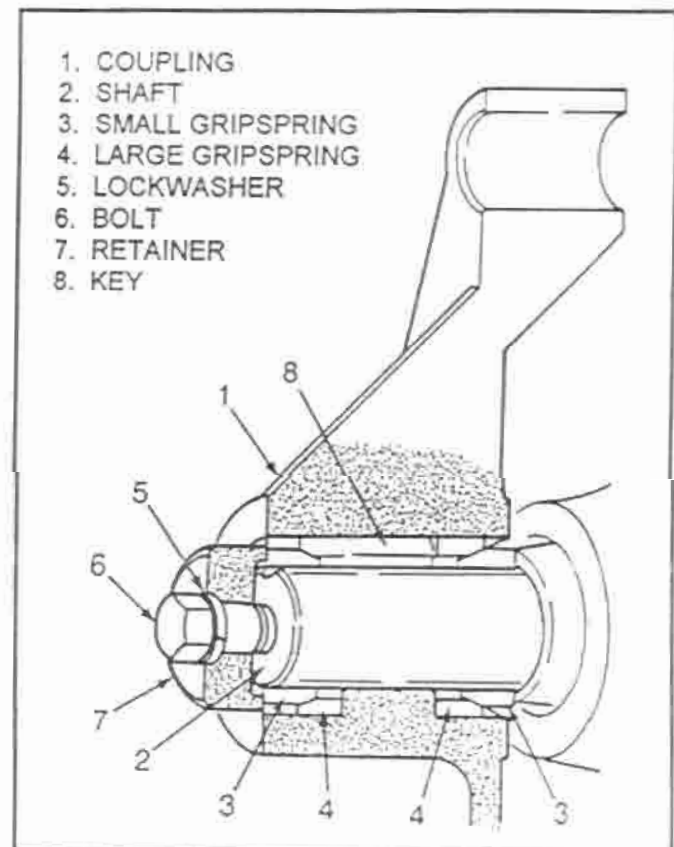

Figure 6-2. Grip spring installation
e. Press inner race of bearing (82) onto non-drive end of shaft (32).
f. Place ball (98) into stator as shown; coat o-ring packing (100) with clean compressor oil and place on end of stator (15).
g. Assemble gasket (99) and adapter (7) on register of drive end cover (88) making certain holes are aligned. Carefully assemble this group of parts into drive end of stator with sealing washers (96) and bolts (95).
h. Coat o-ring packing (90, 93) with clean compressor oil. Assemble packing (90) and sleeve (92) on shaft.
i. Assemble oil seal (89) into oil seal cover (86) with sealing lip facing drive end cover. Coat o-ring packing (93) with clean compressor oil and install on oil seal sleeve (89); assemble oil seal sleeve into oil seal cover (86) with packing end toward oil seal (89). Assemble gasket (99) and oil seal cover (86) over shaft extension, carefully, making certain mounting holes are aligned; secure oil seal cover (86) to end cover (88) with lock washers (85) and cap screws (84).
j. Assemble gripsprings (31) on each side of drive coupling (8) with small end of taper facing away from compressor on both shaft halves of the gripsprings. Refer to Figure 6-2. Assemble the gripsprings as follows:
1. Install smaller gripspring (3) on shaft (2) with beveled edge out.
2. Position larger gripspring (4) over gripspring (3) so that the beveled edges meet.
3. Install key (8) on shaft. Slide coupling (1) on shaft and over key and gripsprings until it seats.
4. Position second larger gripspring (4) in coupling with beveled edge facing outward.
5. Install second smaller gripspring (3) on shaft. Be sure beveled edges of gripsprings (3 and 4) match.
6. Position gripspring retainer (7) on shaft. Secure gripspring retainer (7) with lock washer (5) and special bolt (6).